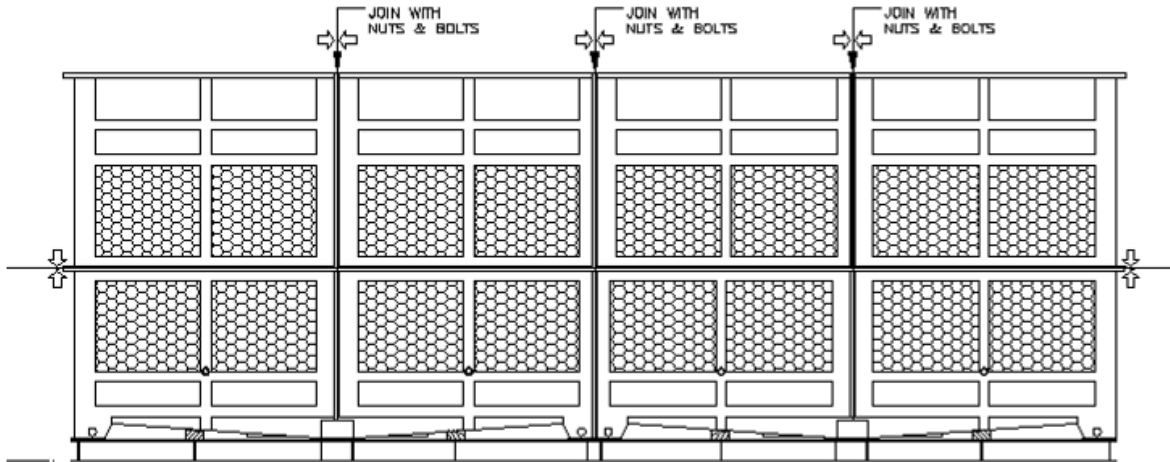

Figure A-27: Upper Air Inlet Sections Installation
- I. Proceed to place **Upper Air Inlet Section 2** on top of Basin Section 2; make sure that the bolt holes are aligned. Bolt the vertical flanges between Upper Air Inlet Sections 1 & 2 together using first the galvanized steel bolts and nuts (supplied by REYMSA) to join sections. Then replace the galvanized steel bolts with the stainless steel nut and bolt sets supplied by REYMSA. Then proceed to bolt down and secure the horizontal flanges between Upper Air Inlet Section 2 and Basin Section 2, with the stainless steel nut and bolt sets supplied by REYMSA. Repeat until all Upper Air Inlet Sections have been installed (see Figure A-27).